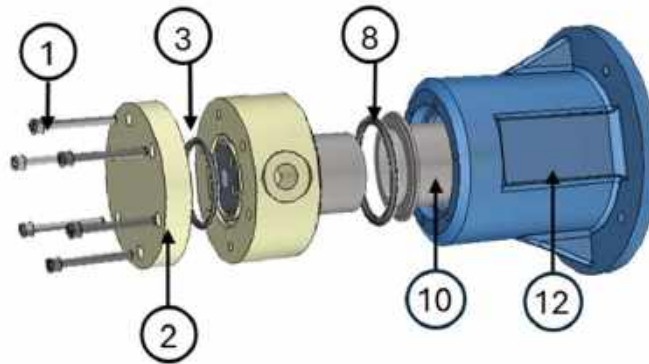

Figure 4
1. Disassemble the pump by removing the screws (1) using an Allen key, removing the cover (2) from the bracket (12), freeing the rear casing (10) and the O-rings (3) and (8) that will be replaced. See figure 4
- 8- Fit the pump body (8) and the rear casing (10) and lock everything by screwing the cover (2) onto the bracket (12) using the screws (1) (refer to Fig.4)